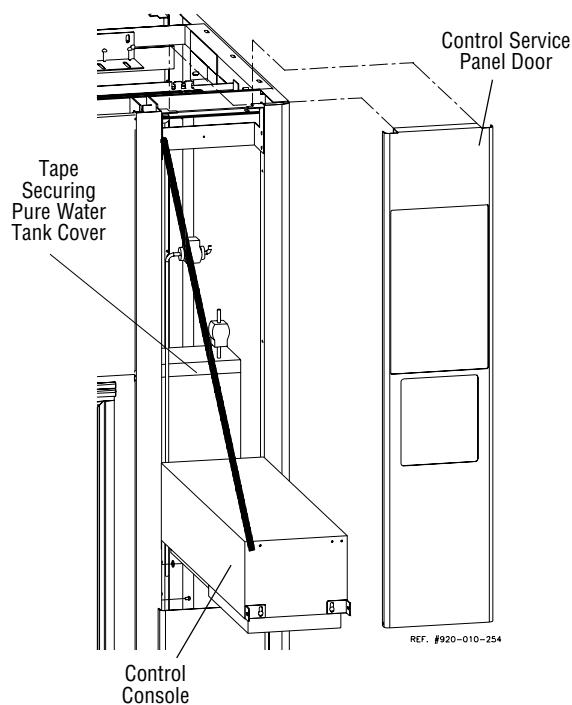

Figure 2-15. Lower Control Console
- sole to unit frame. Lower console to horizontal position (see Figure 2-15).
- c. Remove tape from pure water tank cover (see Figure 2-15).